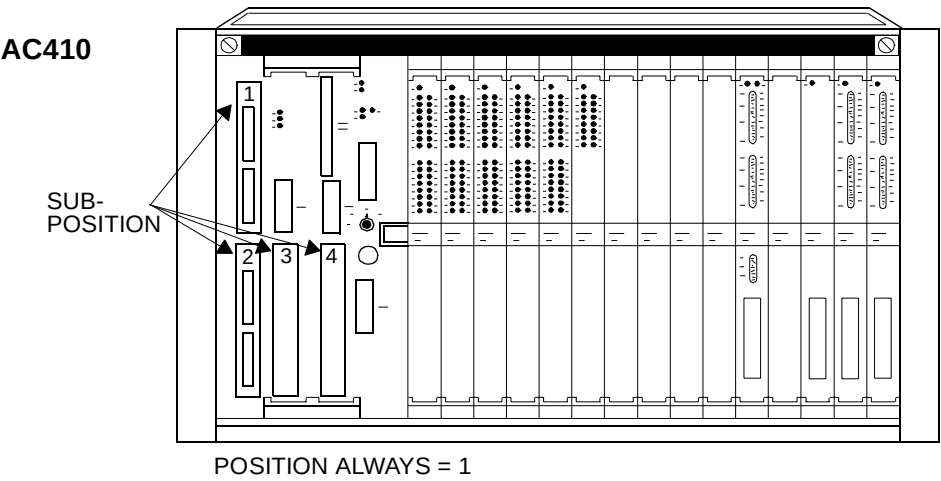

Figure 2-5. Position and Subposition for CI534V04 Submodule in Advant Controller 410
- In Advant Controller 410 the CI534V04 submodule is connected to one of the four submodule positions on the main processor module PM150, see Figure 2-5.